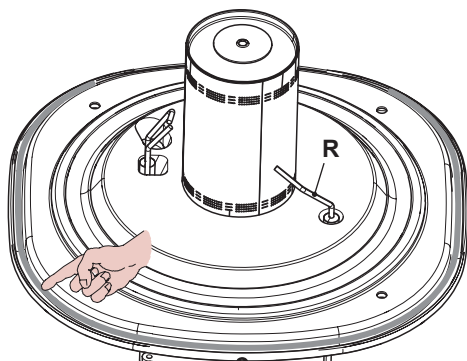
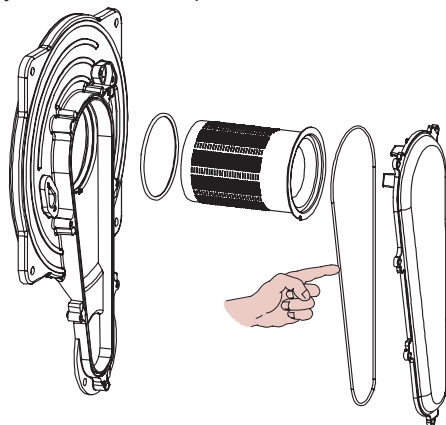

Fig. 9.10
Fig. 9.12
- The detection electrode R in Fig. 9.10 also functions as a sensor for the correct drainage of the condensate. Should the mentioned electrode come into contact with the condensate water present within the combustion chamber it sends the boiler into safety lockout. Therefore, should the insulation be wet or deteriorated, provide for the substitution of the same.
Caution: After any periodical servicing or disturbance the combustion chamber silicon seal (Fig. 9.10) and the Air-gas duct gasket (Fig. 9.12) must be fully inspected and replaced at the discretion of the service engineer.